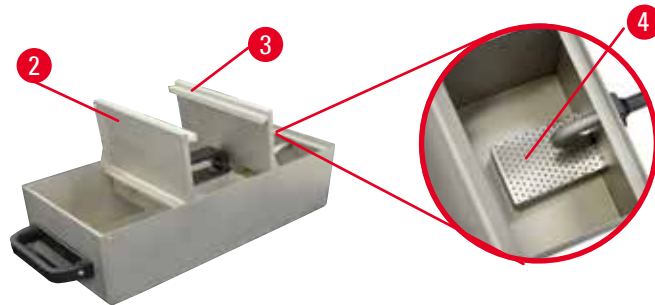

Fig. 17
- When pulling out a bath, both the front and the rear cover can be folded upwards each other (→ "Fig. 17") to facilitate filling and cleaning.